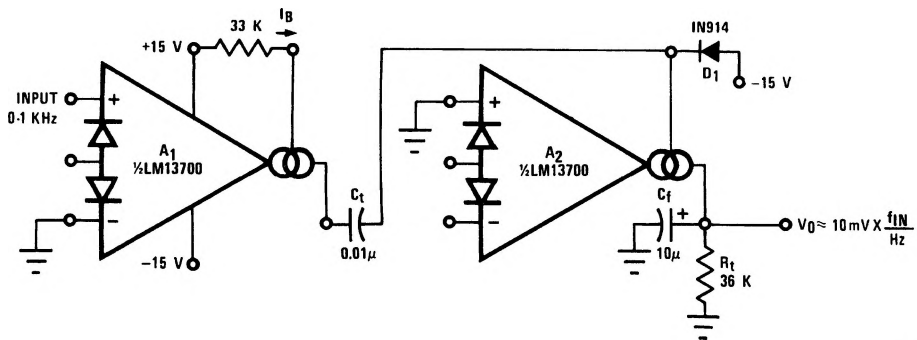
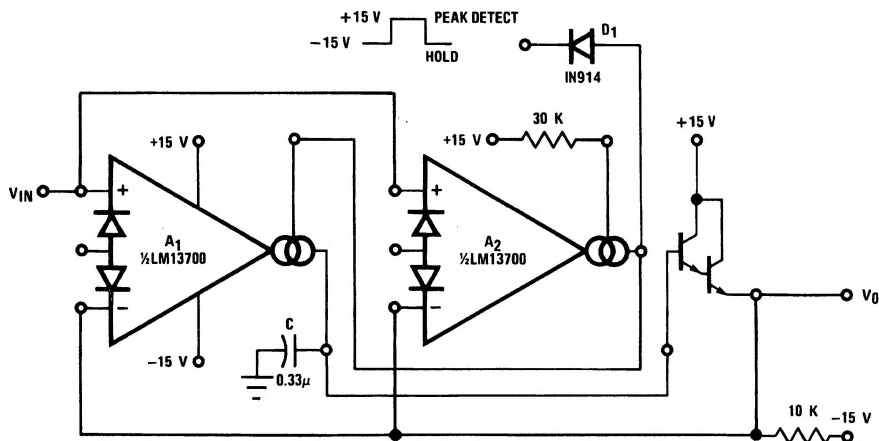

FIGURE 23. Tachometer
FIGURE 24. Peak Detector and Hold Circuit
*Figure 23* shows a Tachometer or Frequency-to-Voltage converter. Whenever A1 is toggled by a positive-going input, an amount of charge equal to  $(V_H - V_L) C_t$  is sourced into  $C_t$  and  $R_f$ . This once per cycle charge is then balanced by the current of  $V_O/R_f$ . The maximum  $F_{IN}$  is limited by the amount of time required to charge  $C_t$  from  $V_L$  to  $V_H$  with a current of  $I_B$ , where  $V_L$  and  $V_H$  represent the maximum low and maximum high output voltage swing of the LM13700. D1 is added to provide a discharge path for  $C_t$  when A1 switches low. The Peak Detector of *Figure 24* uses A2 to turn on A1 whenever  $V_{IN}$  becomes more positive than  $V_O$ . A1 then charges storage capacitor  $C$  to hold  $V_O$  equal to  $V_{IN}$  PK. Pulling the output of A2 low through D1 serves to turn off A1 so that  $V_O$  remains constant.